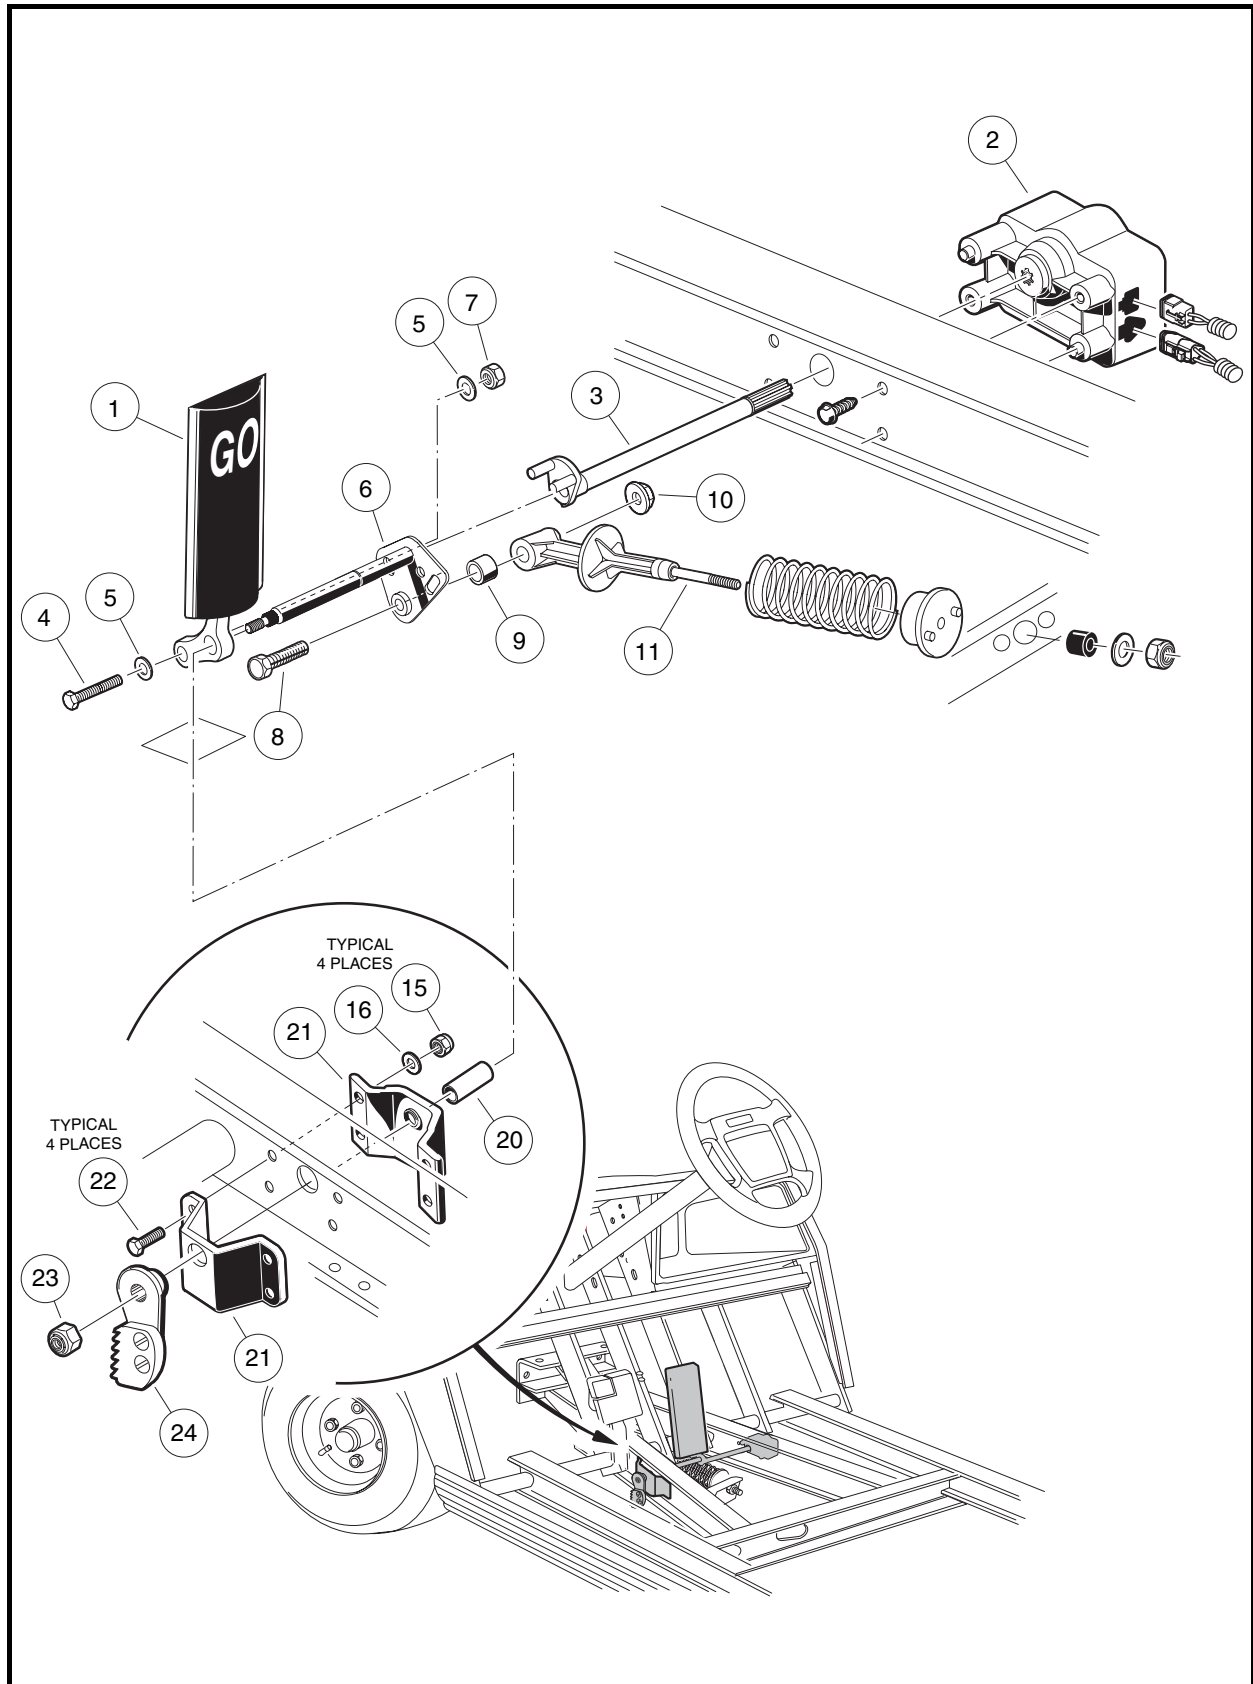

Figure 5-8 Accelerator Pedal – Electric Vehicle
3. Remove the MCOR (2) and drive bar (3) as instructed (**Figure 5-8, Page 5-10**). See **MCOR Removal, Section 12, in the appropriate maintenance and service supplement**.
4. Use a 9/16-inch socket and 9/16-inch wrench to remove the nut (7), two washers (5), and bolt (4) securing the accelerator pedal (1) to the pivot rod (6) (**Figure 5-8, Page 5-10**).
5. Remove the nut (10) and bolt (8) from the accelerator pivot rod assembly (6).
6. Slide the spring retainer (11) off of the accelerator pivot rod.
7. Inspect the pivot support bearing (9) for wear and replace if necessary.
8. Use a marker to mark the position of the park brake ratchet (24) on the accelerator pivot rod (6). See following **NOTE**.
9. Remove the lock nut (23) from the accelerator pivot rod.
10. Press the brake pedal slightly and slide the park brake ratchet (24) toward the end of the accelerator pivot rod. Rotate the ratchet and remove it from the pivot rod.
11. Remove the pivot rod (6) and spacer (20) from the accelerator pivot rod supports (21) (**Figure 5-8, Page 5-10**).
12. Inspect the accelerator pivot rod supports (21) for wear and damage and replace as necessary. If the pivot rod supports do not require replacement, loosen, but do not remove, the four bolts (22) and lock nuts (15) to make installation of the pivot rod easier.
13. Remove the accelerator pedal (1) from the vehicle (**Figure 5-8, Page 5-10**).
1. If the accelerator pivot rod supports were replaced, position the supports (21) on the vehicle frame and install the four bolts (22), flat washers (16), and lock nuts (15) (**Figure 5-8, Page 5-10**). Finger-tighten nuts at this time.
2. Insert the lower end of the accelerator pedal (1) through the floorboard and install the accelerator pivot rod (6) through the uppermost hole in the pedal.
3. Install plastic spacer (20) on pivot rod (6).
4. Insert the pivot rod through the pivot rod supports (21) on the vehicle frame.
5. Tighten the four bolts (22) attaching the pivot rod supports to the frame to 75 in-lb (8.5 N·m) (**Figure 5-8, Page 5-10**).
6. Insert the bolt (4), two washers (5), and a new lock nut (7) through the lower hole in the pedal and through the pivot rod. Finger-tighten lock nut at this time.
7. Install the bolt (8) through the pivot rod (6) and spring retainer (11). Secure these parts with the nut (10) (**Figure 5-8, Page 5-10**). Tighten the nut to 50 in-lb (5.5 N·m).
11. Install lock nut (23) on pivot rod (**Figure 5-8, Page 5-10**). Tighten to 18 ft-lb (24.5 N·m).
12. Install the MCOR (2) and drive bar (3) as instructed. **See MCOR Removal, Section 12, in the Power-Drive Maintenance and Service Supplement.**